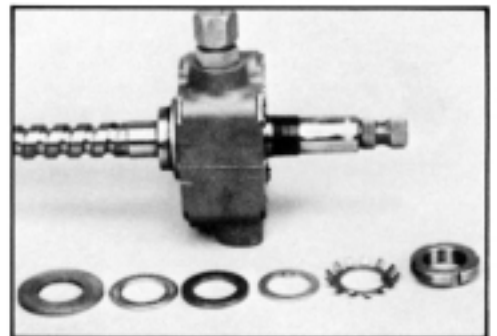

Figure 78
31. Remove and discard bearing lock washer (10) and remove washer (11), thrust washer (12), thrust bearing (13) and thrust washer (14). SEE FIGURE 78.